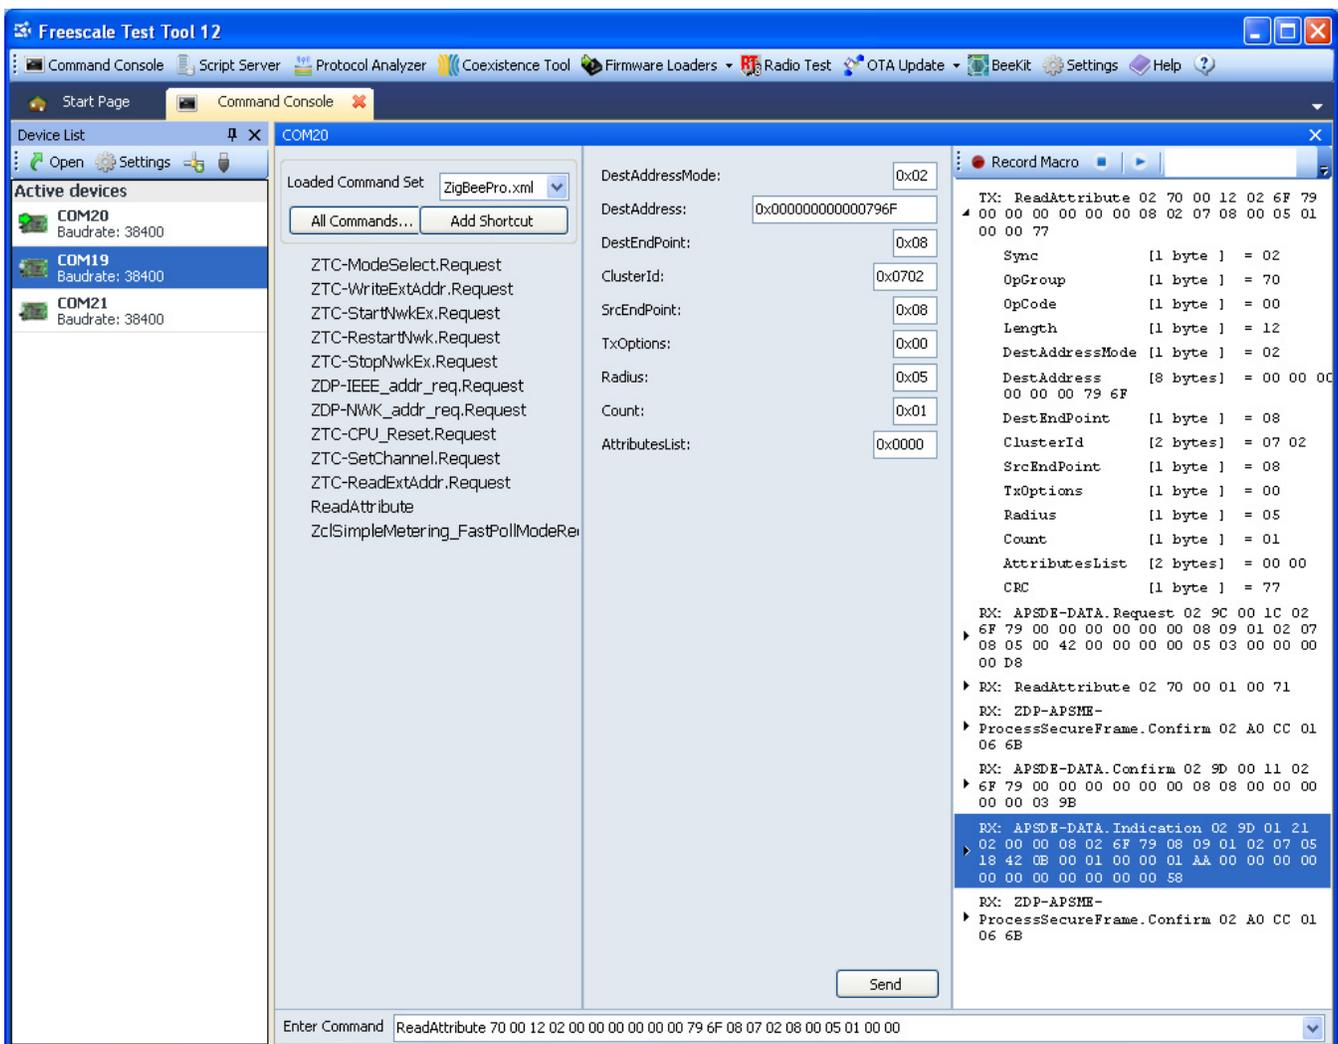

Figure 6-8. ReadAttribute Request Command Configuration
- Set the parameters in the Request as follows (also shown in Figure 6-8):